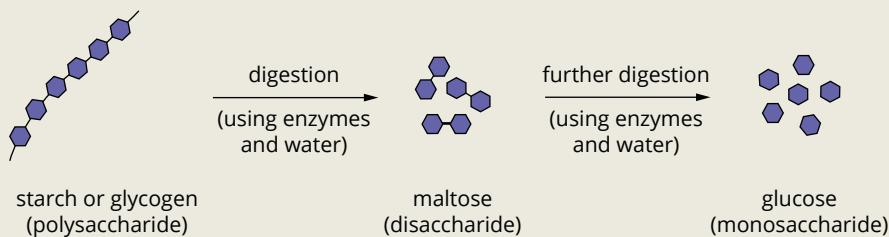

FIGURE 16.4.13 Hydrolysis of polysaccharides.
- Polysaccharides are hydrolysed to disaccharides and then to monosaccharides. The monosaccharides can be transported in the bloodstream to cells for the production of energy or storage as glycogen (Figure 16.4.13).
- The glycaemic index (GI) of a food is a measure of its impact upon blood sugar levels. High-GI foods are digested easily and can cause a spike in sugar levels. Low-GI foods are slow to digest and they have a smaller effect upon blood sugar levels, providing energy over a longer period of time.